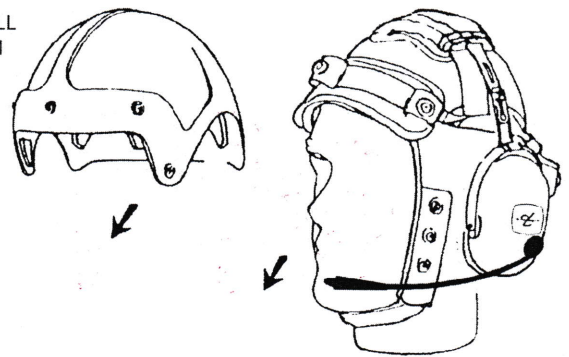

FIGURE 6
1. Align front side of helmet liner and headset assembly with front of helmet shell, position helmet liner and headset assembly in helmet shell (See Figure 6).